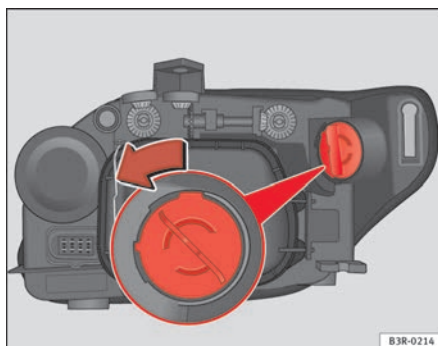

Fig. 202 DRL light (day light)
- Turn the bulb holder anti-clockwise, pulling it by the grip ⇒ fig. 202 and removing the bulb holder and the bulb.